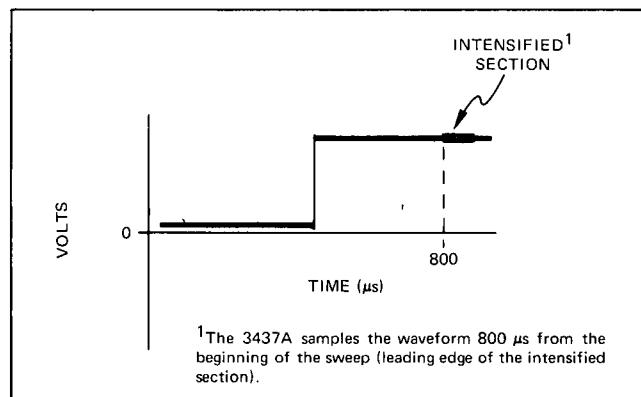

Figure 5-3. Intensified Waveform.
- e. Adjust the 3310A output level, oscilloscope trigger and intensity levels, to obtain a display as illustrated in Figure 5-3.
c. Adjust the 3310A output level, oscilloscope trigger and intensity levels, to obtain a waveform as illustrated in Figure 5-3.
- c. Adjust the 3310A output level, oscilloscope trigger and intensity levels, to obtain a waveform as illustrated in Figure 5-3.